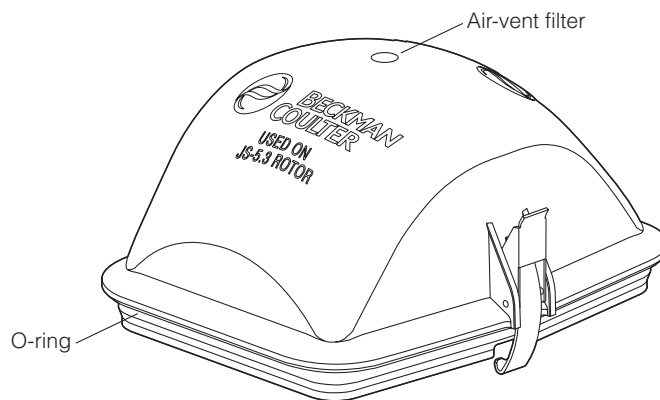

Figure 8. Aeroseal Cover
1. Remove the air-vent filters (as described in MAINTENANCE, above) and O-rings from the covers (see Figure 8).